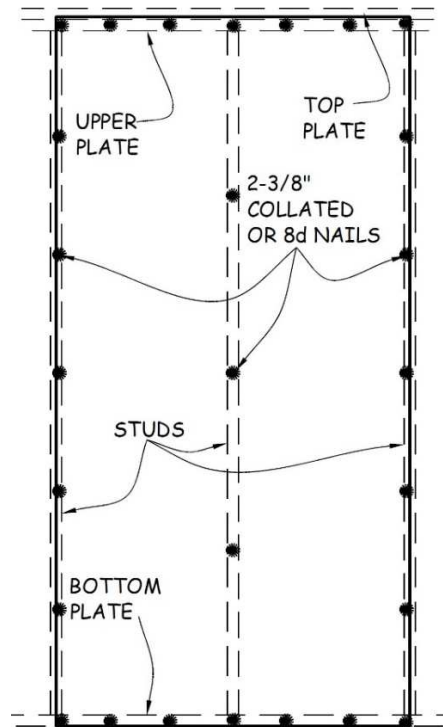

Figure 5-1. Non-Wind Bracing OSB Nailing Pattern.
- Using a T-square, or measurements, draw a line on all OSB sheets at all studs within the sheets to help ensure that the nails do not miss. Fasten all **wind bracing** OSB sheets with 2³/₈" collated nails or 8d nails into each stud and the upper and bottom plate with a maximum 6" spacing. Fasten all **non-wind bracing** OSB sheets with 2³/₈" collated nails or 8d nails following the Non-Wind Bracing Nailing Pattern: seven equally spaced nails down each side stud, five down the middle stud, and two between each stud in the upper and bottom plates (see Figure 5-1). After all the OSB sheets are fully nailed, pull the nails that are securing the upper plate of the wall to the deck.
11. Permanently fasten any tacked, non-wind bracing OSB with 2¾” collated nails or 8d nails into each stud and the upper and bottom plate following the Non-Wind Bracing OSB Nailing Pattern described in Section 5.3.4 and shown in Figure 5-1.